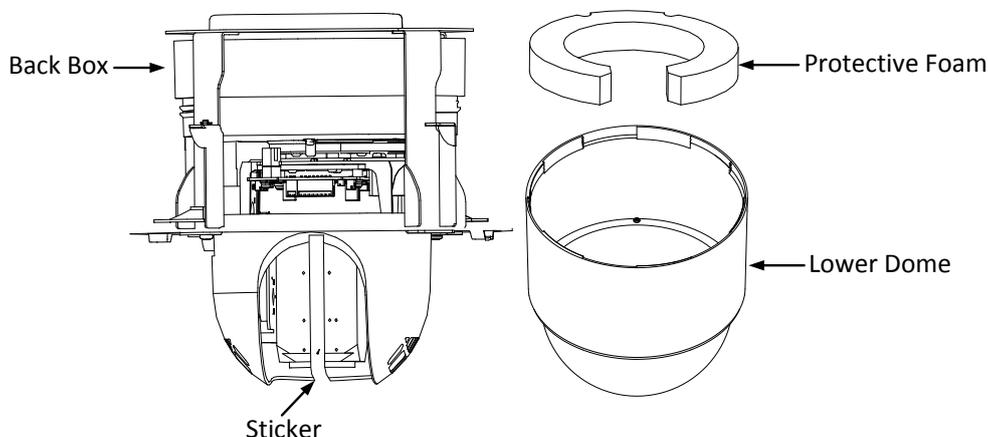

Figure 2-32 Remove the Protective Accessory
2. Rotate the lower dome counterclockwise to separate it from the back box as shown in Figure 2-32.